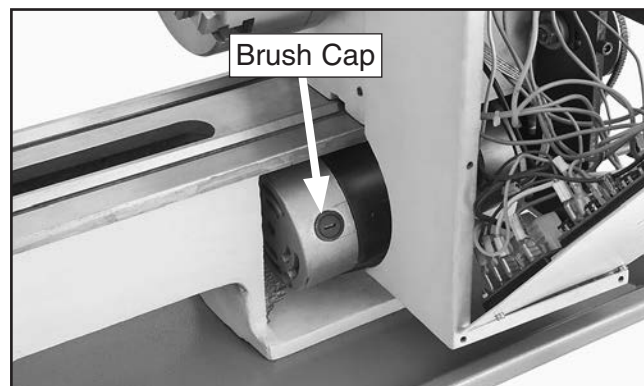

Figure 152. Location of top motor brush cap (Model G0768 shown).
5. Rotate motor to access top motor brush shown in **Figure 152**.